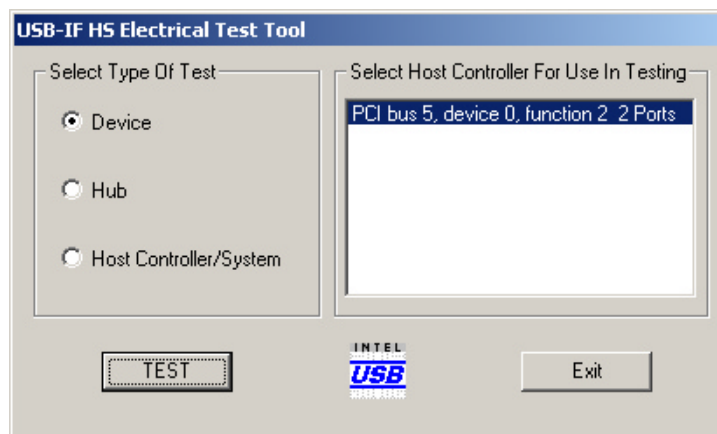

Figure 3. High-speed Electrical Test Tool – Main Menu
7. Invoke the High-speed Electrical Test Tool software on the High-speed Electrical Test Bed computer. The main menu appears and shows the USB2.0 host controller as shown in Figure 3